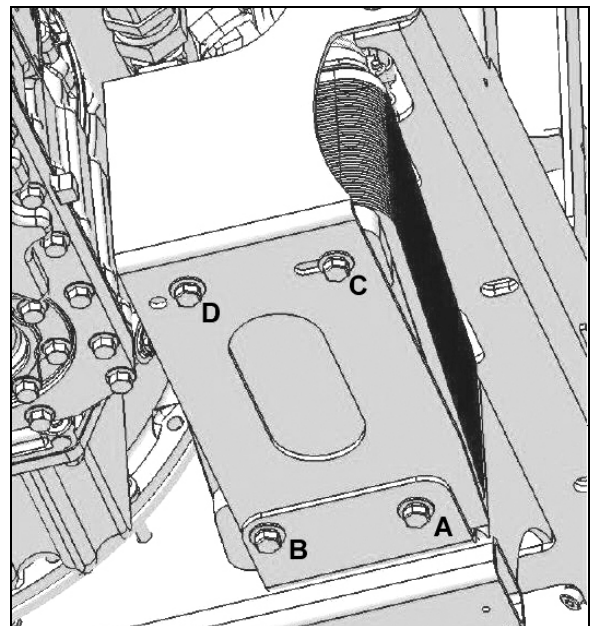

FIGURE 15: NORMAL OIL COOLER POSITION
2. Remove bolts B and D. Untighten bolts A and C then pivot oil cooler as per Figure 15. Install bolts B and D and tighten all bolts.